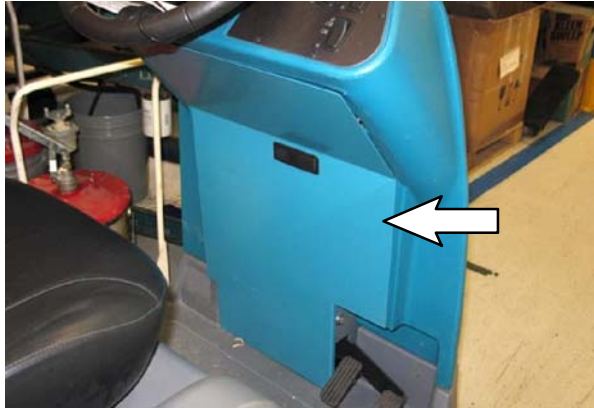

FIG. 8
31. Remove the access panel from the steering channel. (Fig. 8)